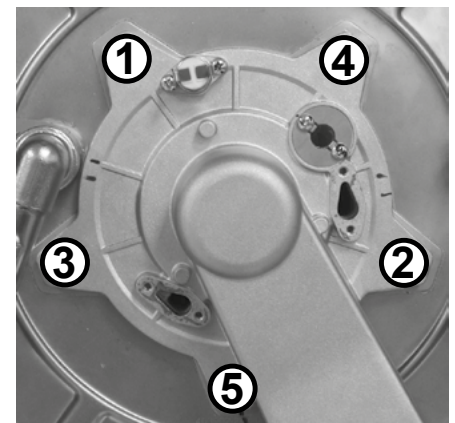

Figure 9 - Remove burner door hex nuts
16 Locate the five (5) hex nuts securing the burner door assembly to the heat exchanger as shown in Figure 9. Use a 10 mm hex socket to remove hex nuts. Place hex nuts aside in a safe location for reinstallation.
NOTICE: Star pattern in Figure 9 above MUST be followed during reinstallation of screws to burner door assembly.
29 Install burner door assembly over bolts in heat exchanger. Locate the five (5) hex nuts previously removed in **Step 16**. Hand tighten the hex nuts, then use a 10 mm hex socket to tighten each nut in a star pattern as indicated by the numbers (1-5) adjacent to the bolt holes. Torque hex nuts to 7.4 ft-lbs. (10 Nm). See Figure 9 as reference.